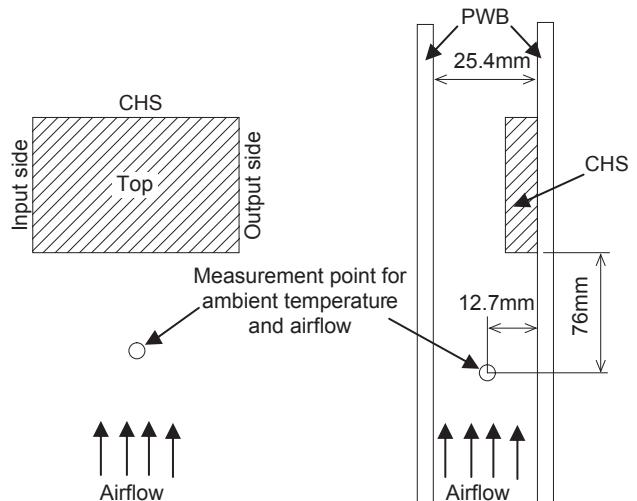

Fig.8.3 Measuring method
- Show the thermal curve with measuring as shown in Fig.8.3. Verify final design by actual temperature measurement. Use the temperature measurement location as shown in Fig.8.2.1 to Fig.8.2.10 at 120°C or less.